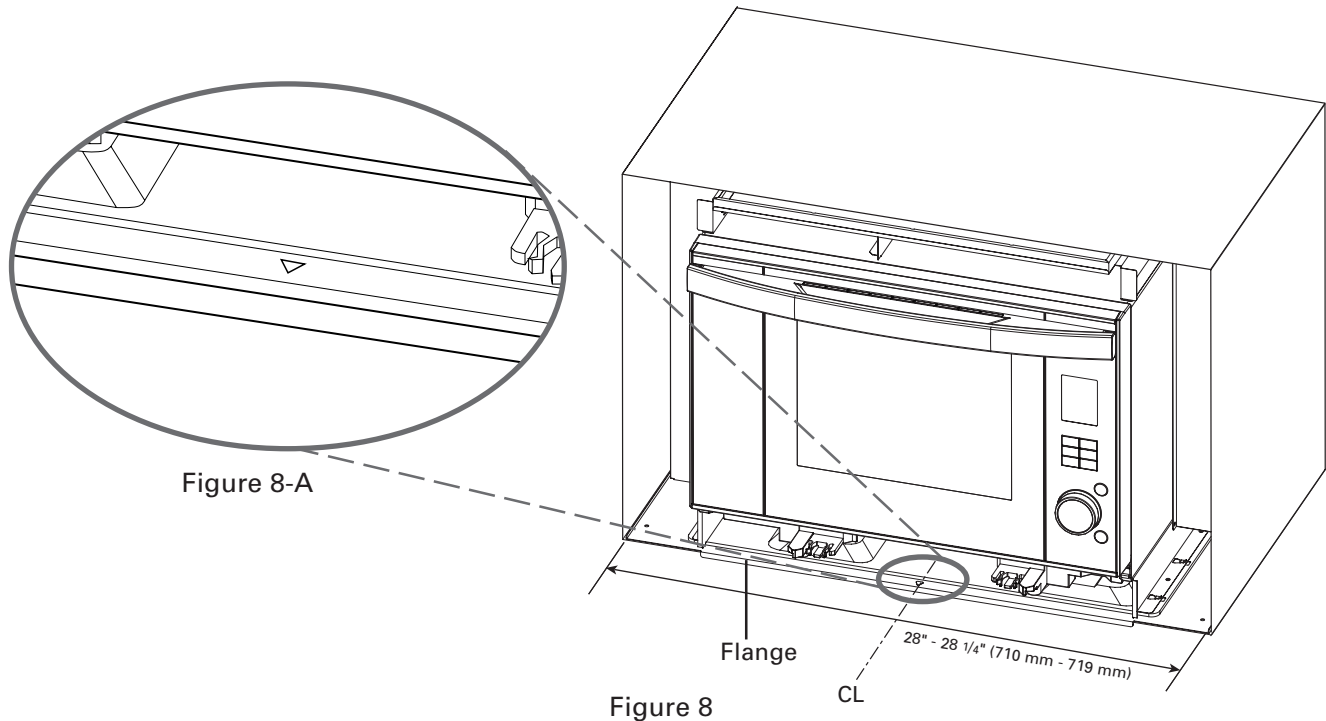

Figure 8
- ① Establish center line of opening and mark front edge.
- ② Place the oven on a table or stand positioned in front of the cabinet where the oven is to be installed. One person should hold the oven while the other connects it to the electrical outlet.
- ③ Install the oven into the shelf with adjusting ▽ mark on EXHAUST DUCT BOTTOM to the center line marked on front edge as shown in Figures 8 and 8-A. Then push the oven until the flange of EXHAUST DUCT BOTTOM touches the edge of the wall or cabinet opening. Avoid pinching the cord between the oven and any wall as shown in Figure 8.
④ Secure EXHAUST DUCT BOTTOM to the shelf with 2 SCREWS (B) as shown in Figures 8-B.